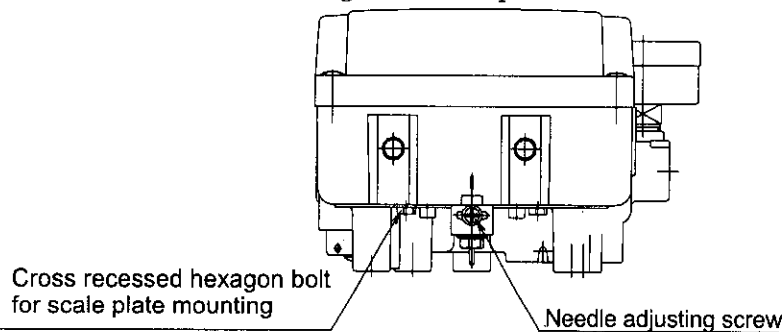

Fig.25 Positioning of needle
- (2) Stop positioner at intermediate opening of actuator (where input signal of 50% finishes to enter to the positioner) and adjust the position of needle to meet with 50 + % of scale plate. (Refer to Fig.25) If the needle can't be met with 50+% even with adjustment, stop pressure supply once, reposition fork lever type fitting and cam, and readjust zero span.